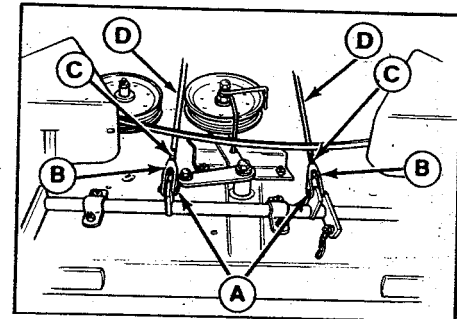

**Figure 38. Levelling Mower**
4. Measure the distance from the front tip of the center blade to the ground, and note that measurement. (See figure 38).
5. Measure the distance to the ground from the rear tips of the left and right blades. Compare these measurements with the measurement from the front tip of the center blade. The front tip of the center blade should be 1/4 inch (6 mm) higher than the rear tips of the side blades (figure 38).